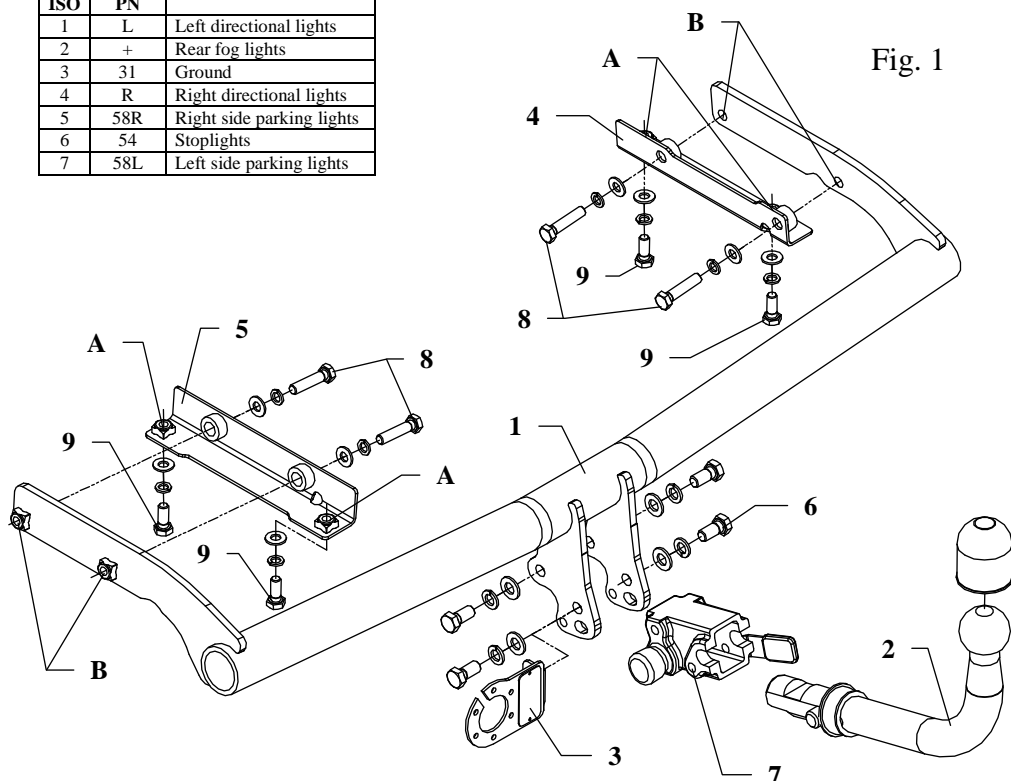

Fig. 1
3. Put fish-plates (pos. 4 and 5) in this way so holes in fish-plates agree with original holes prepared by a car producer. Fish-plates fix loosely in points (pos. A) using bolts M10x25mm (pos. 9) from towbar accessories.
4. Put main bar of the towbar (pos. 1) to chassis frame. Fix using bolts M10x45mm (pos. 8) through holes (pos. B) as shown on the figure 1.